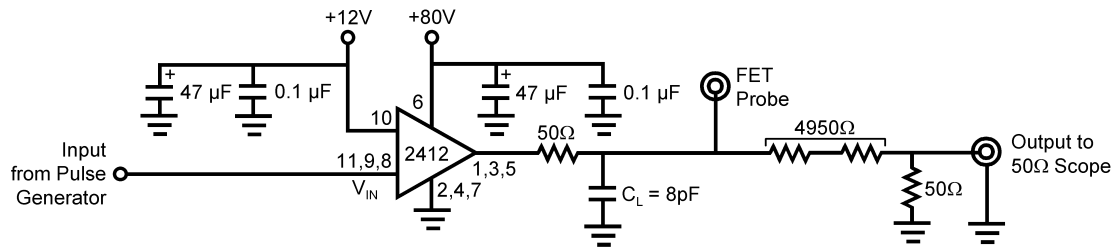
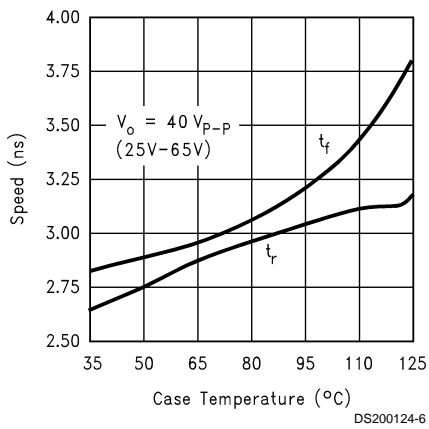

FIGURE 2. Test Circuit (One Channel)
FIGURE 4. Speed vs Temp.
(See Figure 2 for Test Circuit)
Figure 2 shows a typical test circuit for evaluation of the LM2412A. This circuit is designed to allow testing of the LM2412A in a 50Ω environment without the use of an expensive FET probe. The combined resistors of 4950Ω at the output form a 200:1 voltage divider when connected to a 50Ω load. The test board supplied by NSC also offers the option to test the LM2412A with a FET probe.  $C_L$  is the total
*Figure 2* shows a typical test circuit for evaluation of the LM2412A. Due to the very wide bandwidth of the LM2412A, it is highly recommended that the stand alone board supplied by NSC be used for the evaluation of the CRT driver's performance. The 50 $\Omega$  resistor is used to duplicate the required series resistor in the actual application. This resistor would be part of the arc-over protection circuit. The input signal from the generator is AC coupled to the input of the CRT driver.
*Figure 4* shows the performance of the LM2412A in the test circuit shown in *Figure 2* as a function of case temperature. *Figure 4* shows that both the rise and fall times of the LM2412A become slightly longer as the case temperature increases from 40°C to 125°C. In addition to exceeding the safe operating temperature, the rise and fall times will typically exceed 3 nsec. Please note that the LM2412A is **never to be operated over a case temperature of 100°C**. In addition to exceeding the safe operating temperature, the rise and fall times will typically exceed 3 nsec.